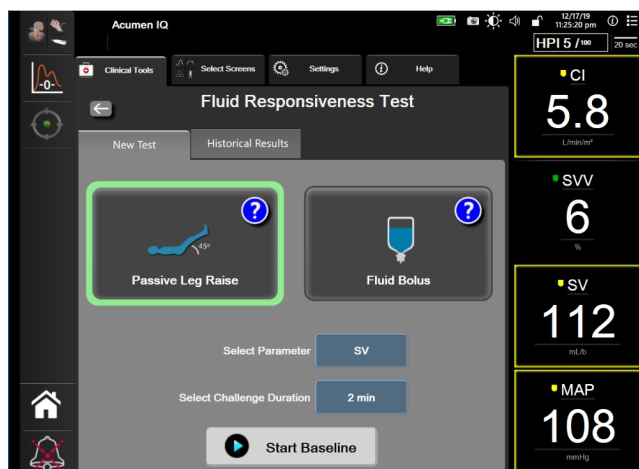

Figure 14-11: Fluid Responsiveness Test – New Test Screen
- On the **New Test** tab (see Figure 14-11 on page 261), touch the desired test type: **Passive Leg Raise** or **Fluid Bolus**.